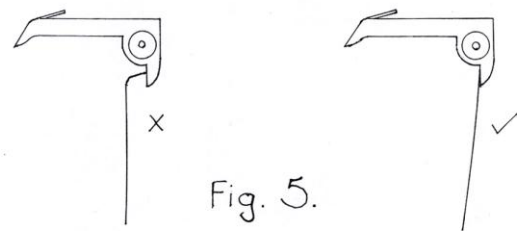

Fig. 5.
**DO NOT OIL THE RATCHET WHEEL OR PAWL FACES.** Do oil the driving pawl stud, however. If the wheel and pawls are oiled they will become dirty and worn. If they are not oiled they become brightly polished but do not wear appreciably. Put a spot of clock grease on the tip of the clickspring and also on the armature lever, where the flat driving spring bears in earlier movements. Alternatively, dry graphite can be used. Ensure that the clickspring bears flat against the tail of the pawl (Fig 5).